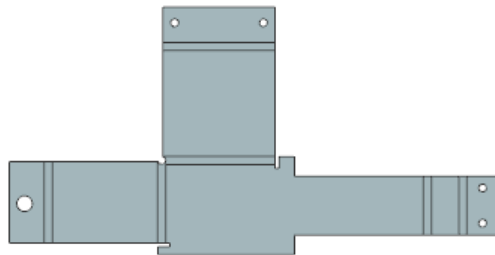

Figure 14-136 Flat solid of the sheet metal part
2. Select the front face of the sheet metal part and then choose the **OK** button; the flat solid of the model is created, as shown in Figure 14-136. Next, hide the sheet metal part.